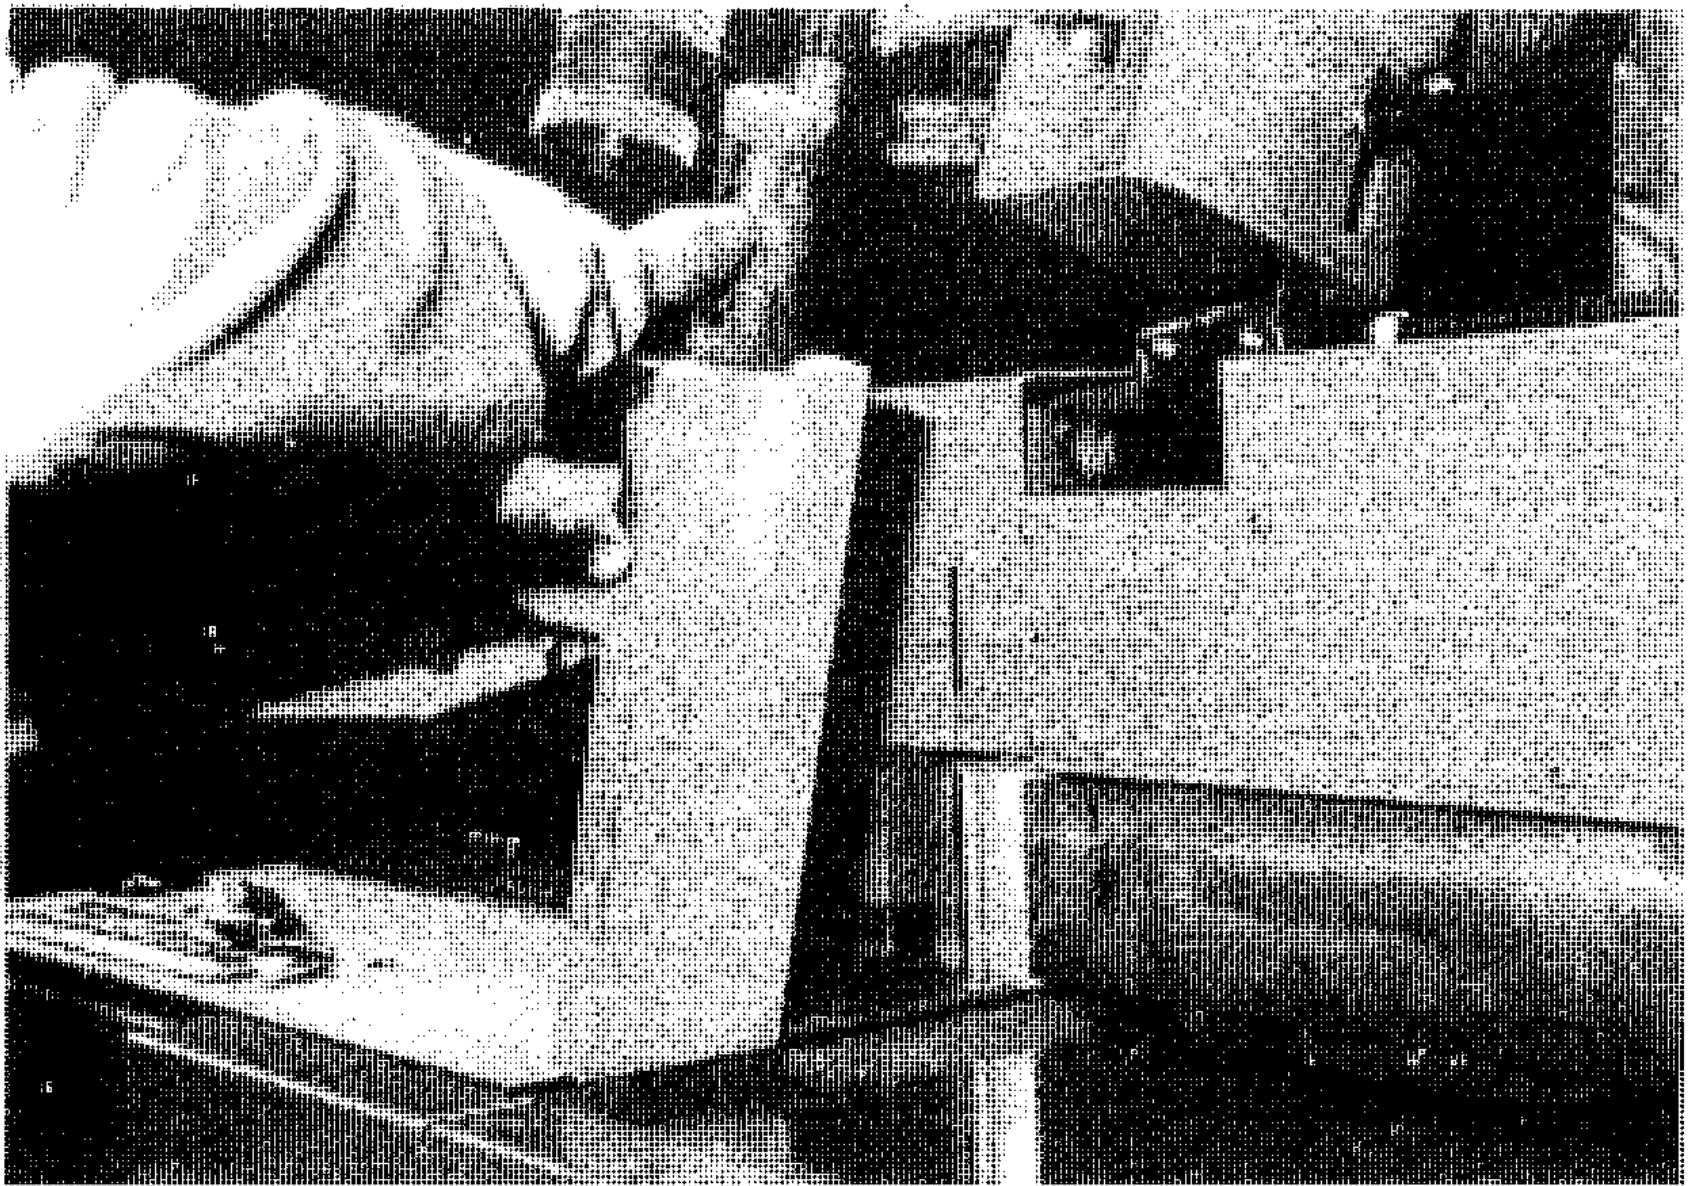

FIG.40
- d) Using a wood block and hammer, remove knife by tapping wedge as shown in FIG.40.